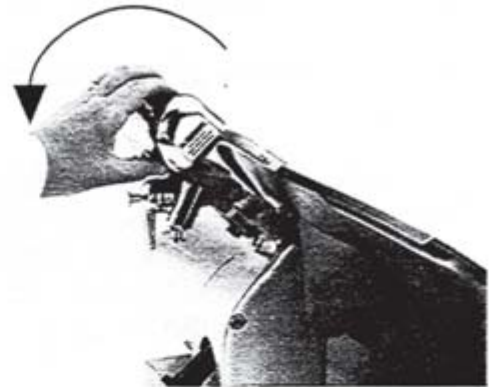

Figure 19-1
3. Expose sharpener stones by lifting the knife sharpener cover (Fig. 19-1). Stones should be clean and dry.